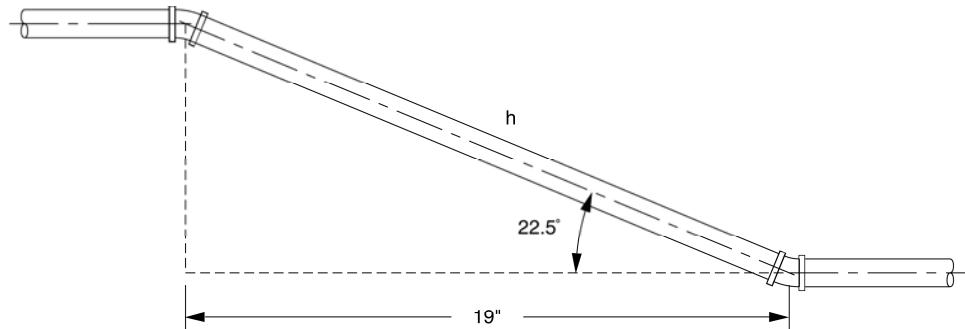

Figure 3-7. Calculate the hypotenuse (travel) of the right triangle using constants.
12. Calculate the hypotenuse (travel) of the triangle shown in Figure 3-7 using constants (refer to your reference material).